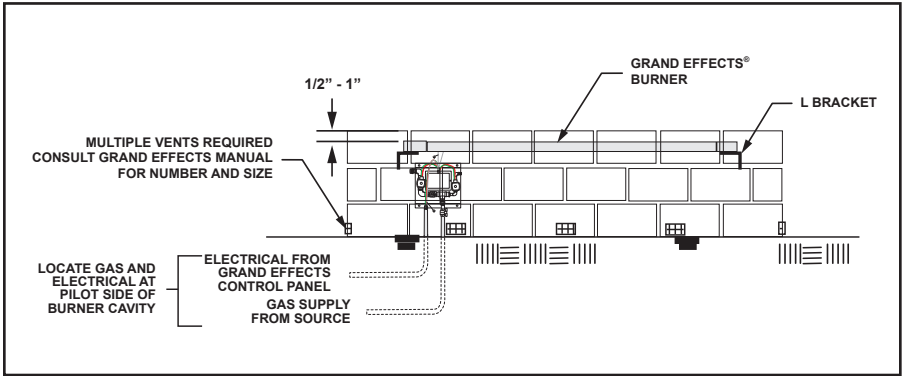

Figure 12. Burner Cavity - Inner Mount Side-view
9. Mount the Support Plate using the L Brackets provided. The Support Plate should be mounted so that top of Burner is 1/2"-1" below top of wall or cap as shown in Figures 12 and 19. The Support Plate should rest on top of the L Brackets.